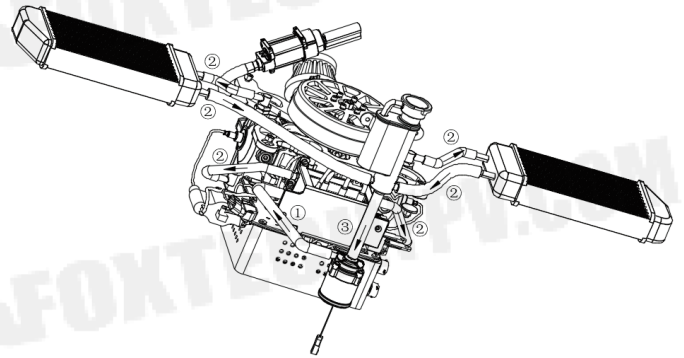

Fig. 5
3.2 Cooling system installation and water pipe connection is shown in Figure 5 below: